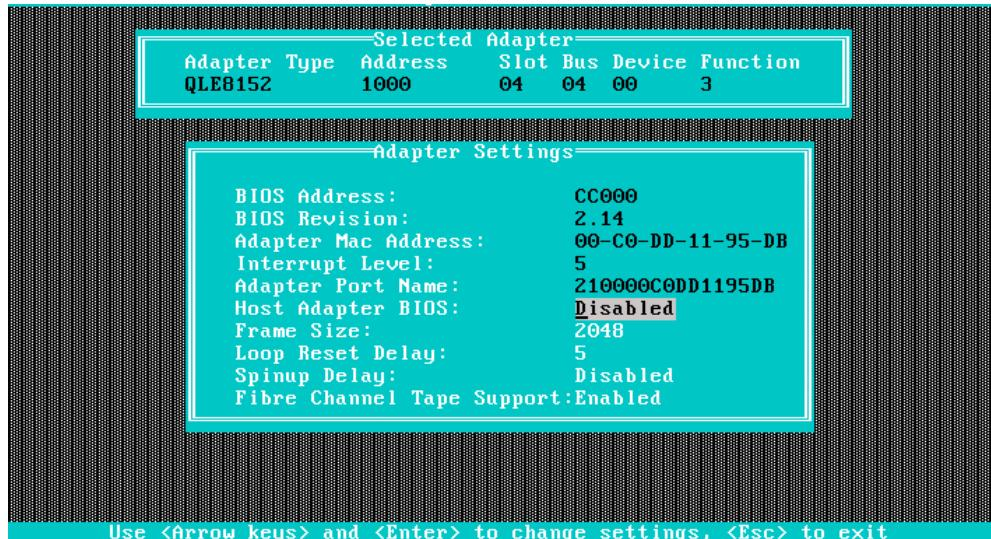

Figure 8-4. Fast!UTIL Adapter Settings
3. Select **Adapter Settings**, as shown in Figure 8-4.
3. Select **Advanced Adapter Settings**, as shown in Figure 8-4.